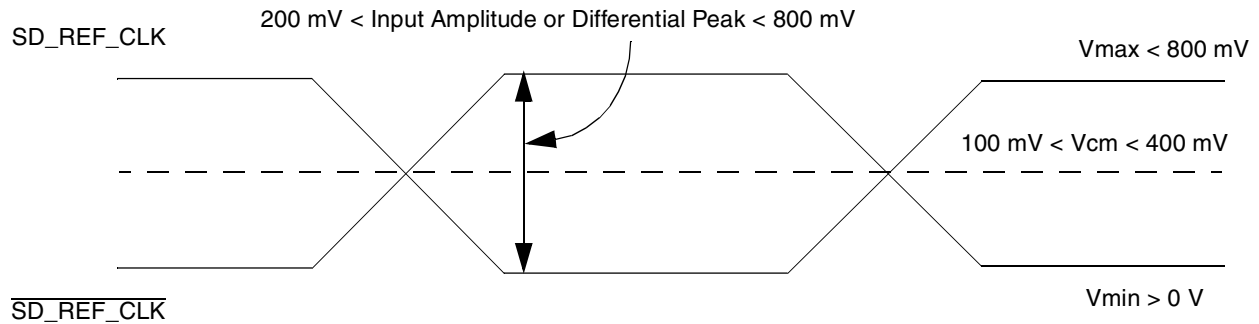

Figure 39. Differential Reference Clock Input DC Requirements (External DC-Coupled)
- For **external DC-coupled** connection, as described in section 15.2.1, the maximum average current requirements sets the requirement for average voltage (common mode voltage) to be between 100 mV and 400 mV. Figure 39 shows the SerDes reference clock input requirement for DC-coupled connection scheme.